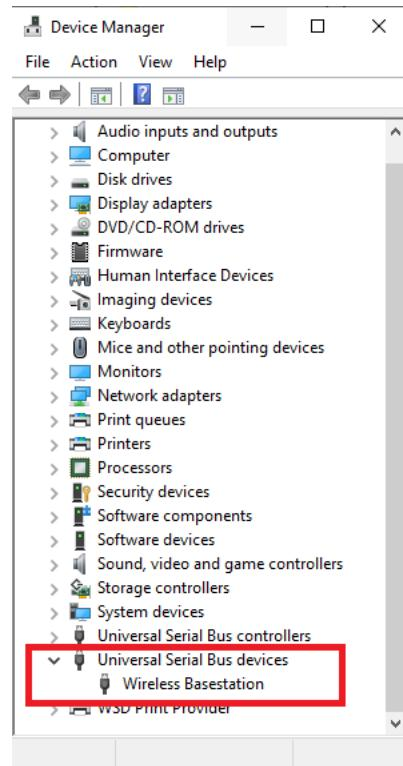

Figure 4.5: Wireless Base-station displayed in Device Manager after successful USB driver installation.
7. Once the installation is complete, confirm that *Wireless Base-station* appears under the *Universal Serial Bus devices* tab in Device Manager (Figure 4.5).